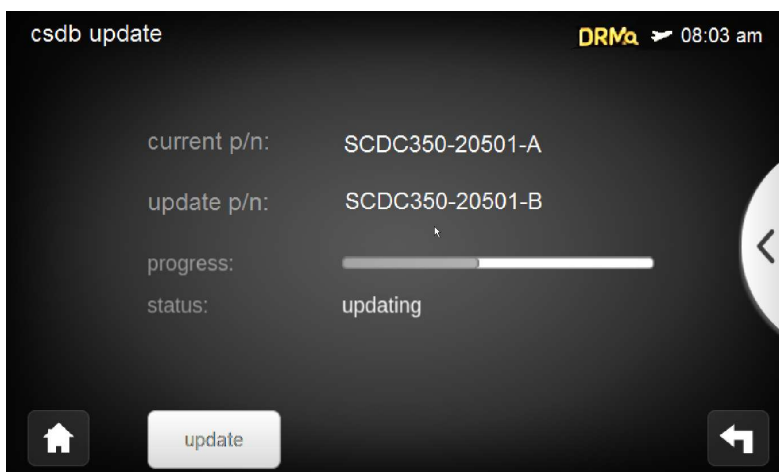

Figure 5: System Software page / CSDB update in progress
Selecting “system software” opens the download screen which shows the currently installed CSDB P/N (“current p/n”), the available update CSDB P/N (“update p/n”) and the button to start the download. Pressing “update” will start the CSDB copy from the USB stick. While copying, a progress bar and “updating” status message indicate the status of the operation (Figure 5).
- g) Select “system software update available”, the “csdb update” menu will be shown (Figure 5).